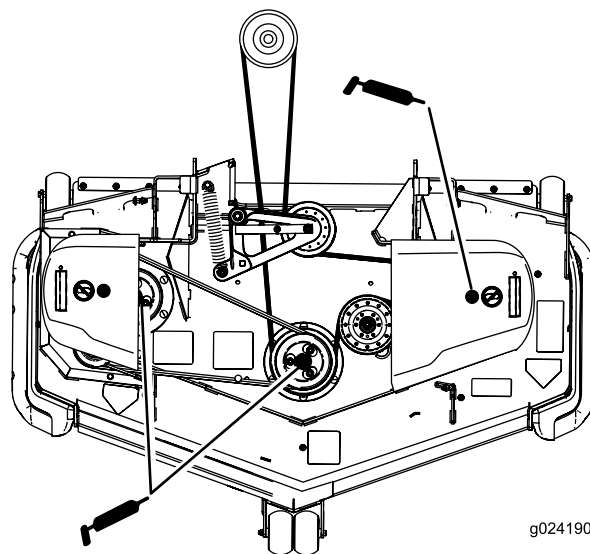

Figure 37
3. Grease the three spindle bearings until grease comes out the lower seals (Figure 37).
5. Grease the drive-belt idler arm (Figure 37).